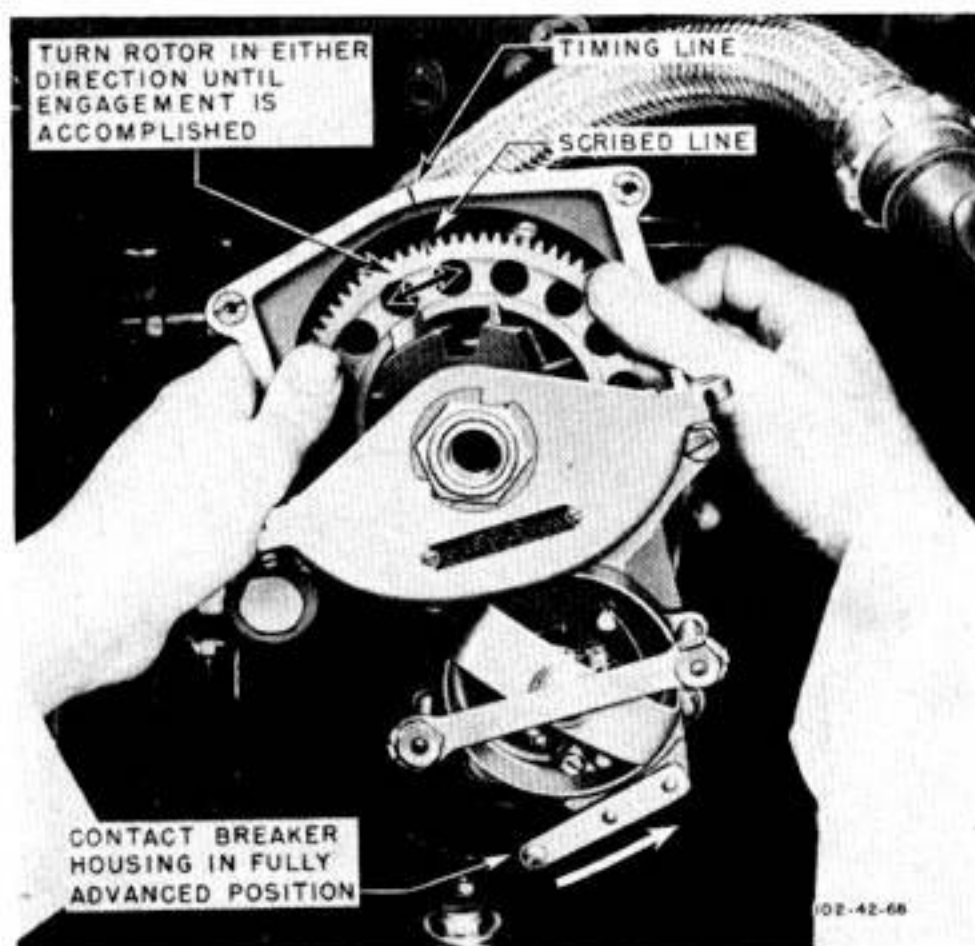

Figure 188—Installing and Timing Magneto to Engine
b. Grasp magneto, holding the scribed line on the rotor in line with the timing line on magneto housing as shown in *figure 188*, and slide magneto over mounting studs engaging vernier coupling shaft with the engine.
c. If coupling shaft will not engage to engine, turn rotor in either direction until engagement is obtained, as shown in *figure 188*. Note the number of rotor gear teeth between the scribed mark on rotor and the timing mark on magneto housing.